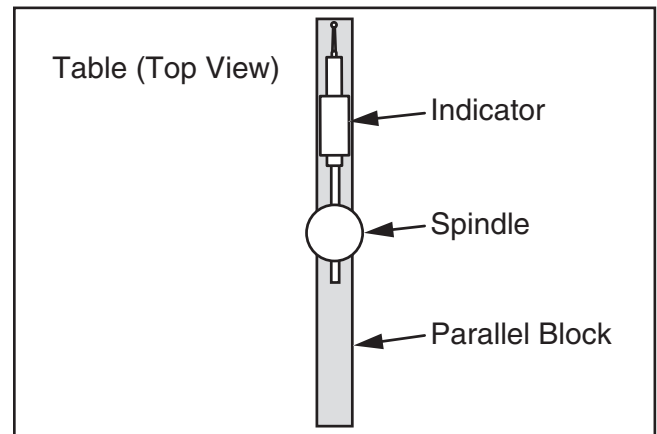

Figure 63. Parallel block and indicator positioned for the Y-axis measurement (top view).
- Place parallel block directly under spindle and across width of table, as illustrated in **Figure 63**.
- Rotate spindle so indicator point rests on parallel bar, as illustrated in **Figure 63**, then zero the dial.